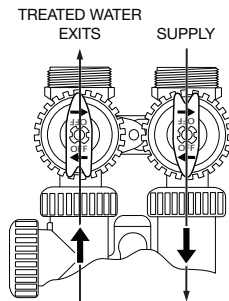

Figure 3: Normal Operation
- **Normal Operation Position:** The inlet and outlet handles point in the direction of water flow, indicated by the engraved arrows on the control valve. Water flows through the control valve during normal operation and this position also allows the control valve to isolate the media bed during the regeneration cycle (Refer to Figure 3).
- Slowly open the bypass knob on the inlet side of the bypass valve and let the tank continue filling up with water. After the tank is full of water slowly open the bypass knob on the outlet side of the bypass valve. (Refer to Figure 3: NORMAL OPERATION).